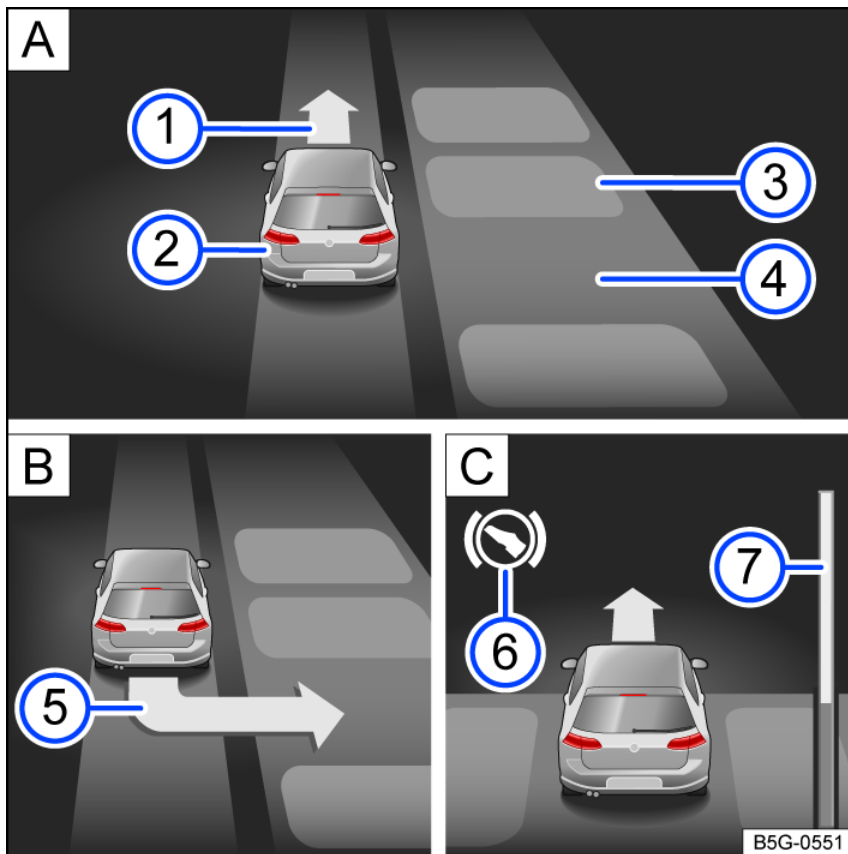

Fig. 142 In the instrument cluster display: parking perpendicular to the road.
- Pay attention to the prompt for parking in the instrument cluster display fig. 142 5.